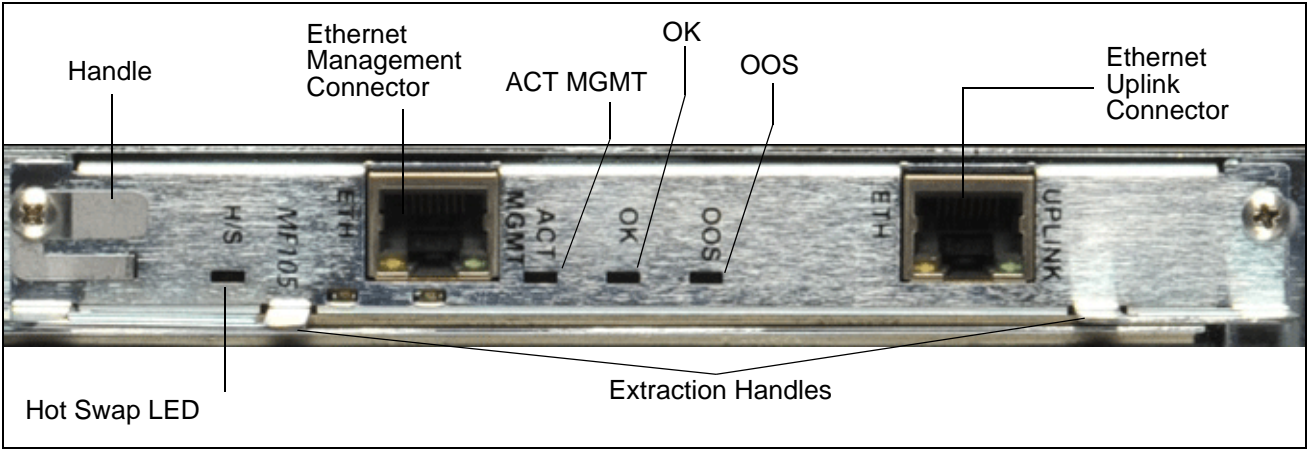

Figure C.36 - SHMM Faceplate
3.	Unfasten the screws of the faceplate until the handle is detached from the front panel of the board (Figure C.36).
| 4. | Remove the SHMM from the shelf using the extraction handles (Figure C.36). |
2.	Unfasten the screws of the faceplate until the handle is detached from the front panel of the board (Figure C.36). The blue Hot Swap LED starts to blink. WAIT until the blue LED stops blinking and is solid blue.
4. Remove the second SHMM from the shelf using the extraction handles (**Figure C.36**).